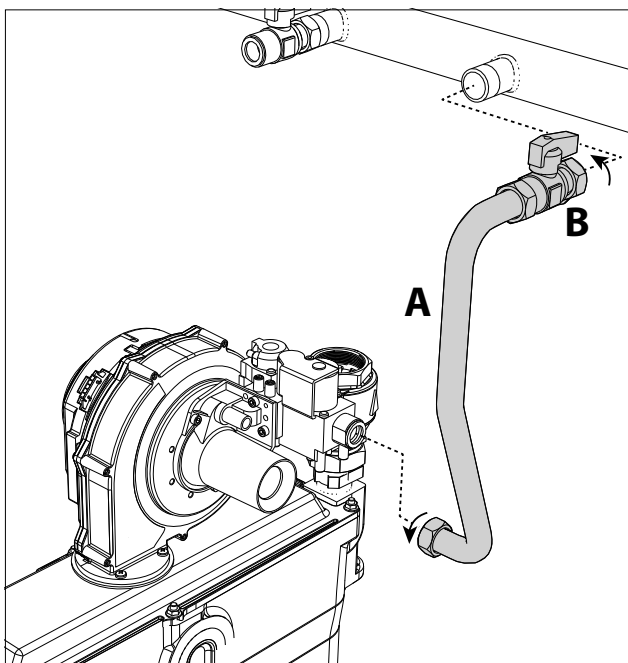

fig. 81
5. Loosen the swivels and disconnect the gas pipe "A" together with the cock "B" (fig. 81).